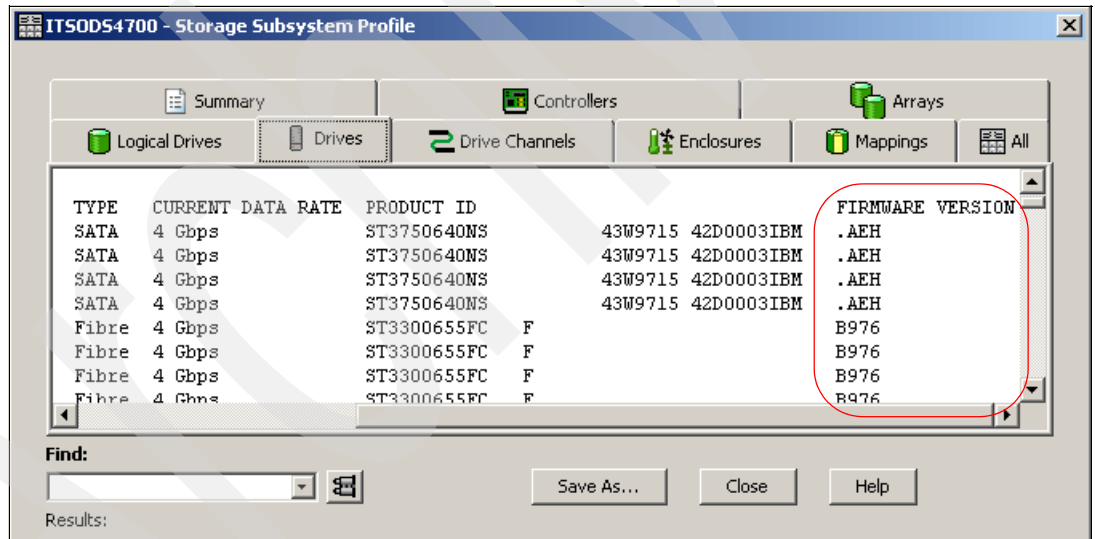

Figure 9-7 Viewing disks firmware
- Click the **Drives** tab to see the drives information. Scroll to the right side of the window until the Firmware Version column is visible. Be aware that you might have different drive types in your enclosures, so you can find multiple versions. See Figure 9-7.